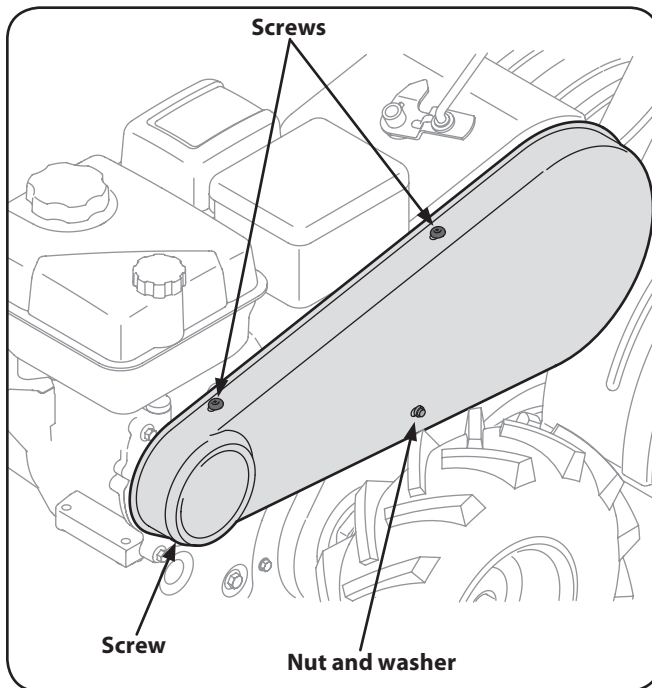

Figure 1-1
2. Remove the belt cover from the left side of the tiller by removing the two screws from the top of the belt cover. See Figure 1-1.
3. Remove the nut and washer from the front side of the belt cover. Remove the hex head screw at the back of the cover. See Figure 1-1.